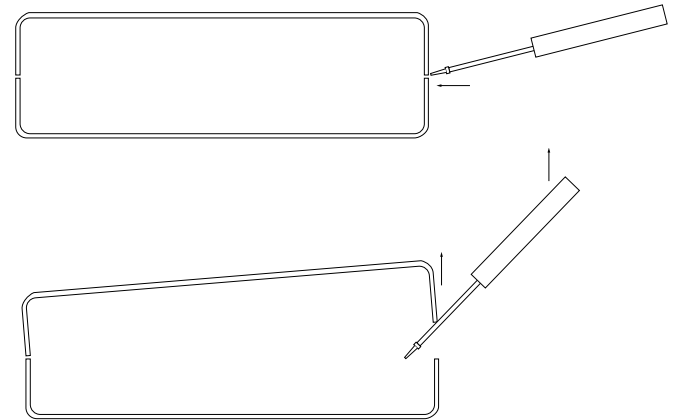

Figure 3. Opening the 2703 Case with a Small Screwdriver
1. Insert a flat head screw driver into an open slot on either side of the case. Twist the screw driver head slightly and the top half of the case will separate from the lower half, as in Figure 3, below.